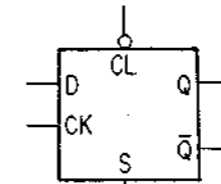
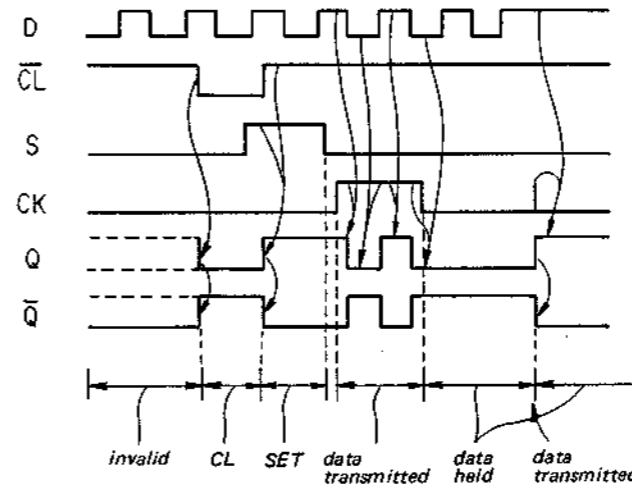

Fig. 2-1
Fig. 2-2
- The CL (R) (clear or reset) and the S (set) input in a D type FF get the priority over the D (data) and the CK (clock) inputs. That is, the D and CK inputs will be ignored if the CL (R) or the S input is present.
- The input symbol represents that the input is active HIGH if there is no circle at the input at the gate and if a circle is present, then that input will be active LOW. For example, the FF in Fig. 2-1 is cleared when the CL (clear) input drops LOW.
- Fig. 2-2 shows the timing chart of the operations of a D type FF shown in Fig. 2-1.